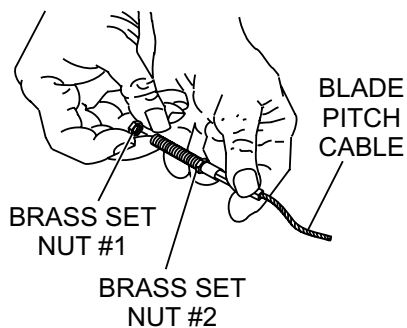

Figure 10. Blade Pitch Cable
3. Insert the cable end through the yoke eyelet (Figure 10). Tighten conical nut #1 by hand to remove all the slack from the cable.
10. Adjust cable tension by loosening the lock nut on the throttle cable receiver (see Figure 10), loosening or tightening the adjusting nut below it, then retightening the lock nut.